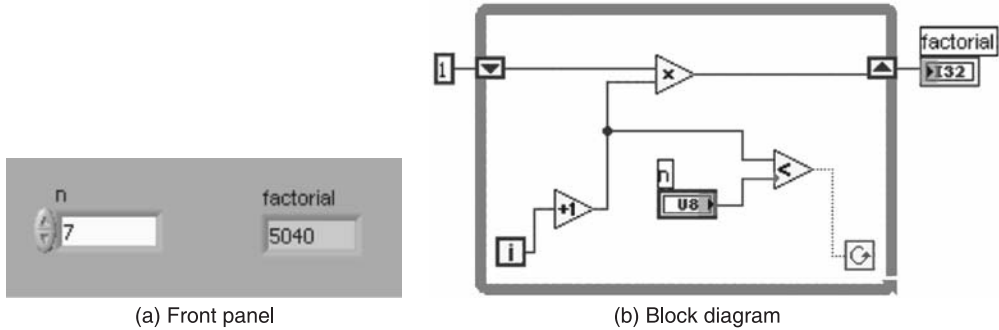

Figure P4.6
**Solution** The front panel and the block diagram to find the factorial are shown in Figures P4.6(a) and P4.6(b).